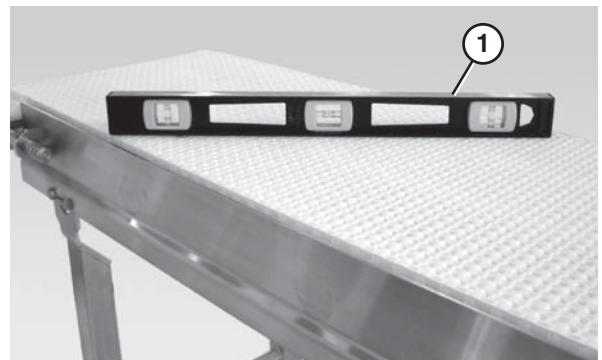

Figure 22
4. Use a level (**Figure 22, item 1**) to verify that both stand legs are the same height.